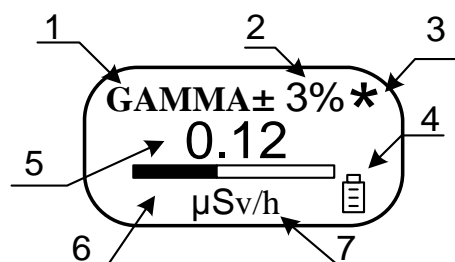

Fig.2. The example of information shown on display
1.4.2.1 The example of information shown on display is given on the Fig. 2